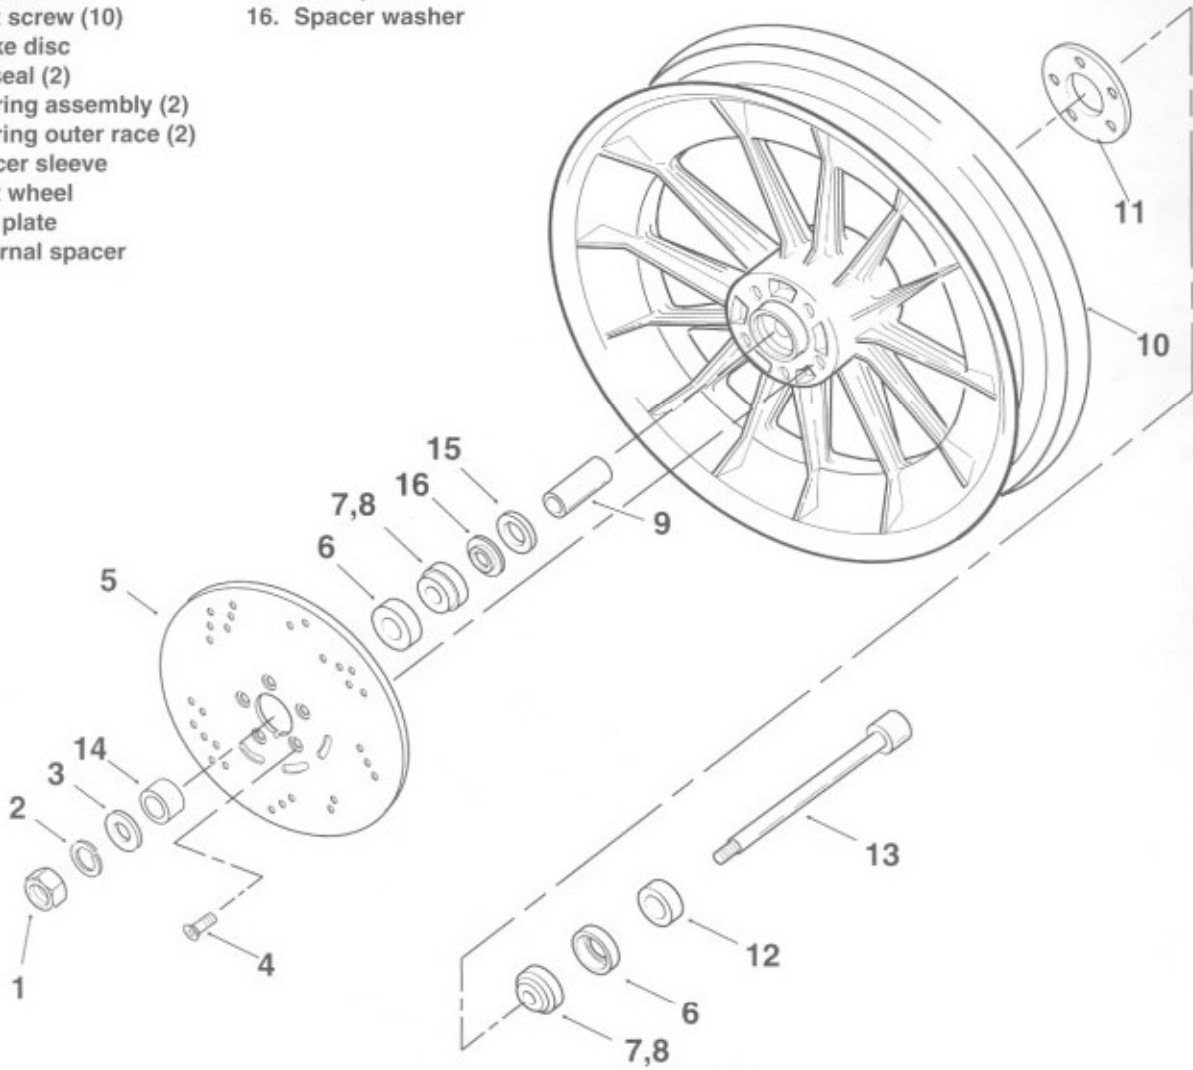
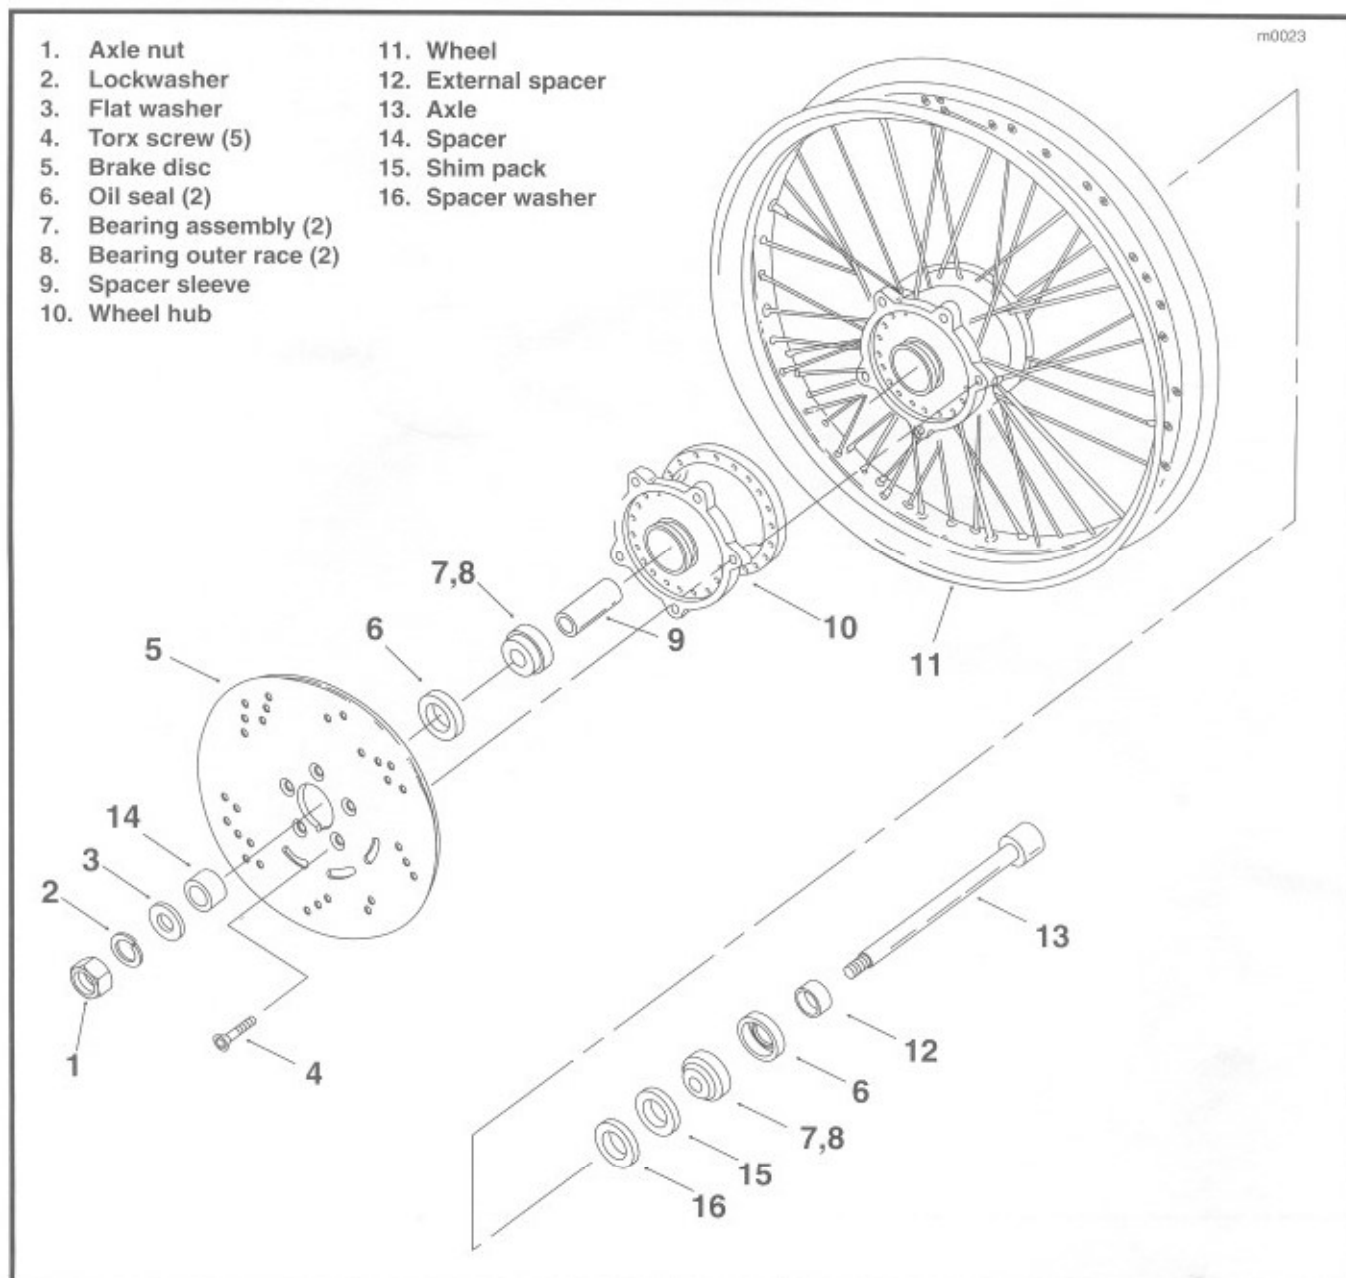

Figure 2-3. Cast Front Wheel
Figure 2-4. Laced Front Wheel
## DISASSEMBLY (Figure 2-3, Figure 2-4)
- Verify that the brake disc is thoroughly clean. Install disc on hub aligning notch in disc with 1/4-in. (6.35 mm) diameter hole in hub. Secure disc with **new** T-40 TORX screws (4). Tighten screws to 16-24 ft-lbs (22-33 Nm) torque.
- On cast wheels (Fig. 2-4), install hub plate (11) to wheel hub using **new** T-40 TORX screws, if removed. Tighten screws to 16-24 ft-lbs (22-33 Nm) torque.
- If removed, press outer races (8) into each side of hub using WHEEL BEARING RACE REMOVER/INSTALLER (Part No. HD-33071A). Apply a liberal amount of bearing grease to bearing outer races after installation.
- Apply a liberal amount of bearing grease to bearing inner races (7). Pack grease into cavities around rollers. Use of HD-33067 Wheel Bearing Packer is recommended.
## ASSEMBLY (Figure 2-3, Figure 2-4)